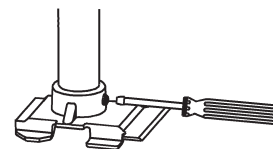

Figure 1
1. Fasten mounting plate (minimum of five full turns) to 3/4-inch conduit by threading the mounting plate onto conduit. (Figure 1)